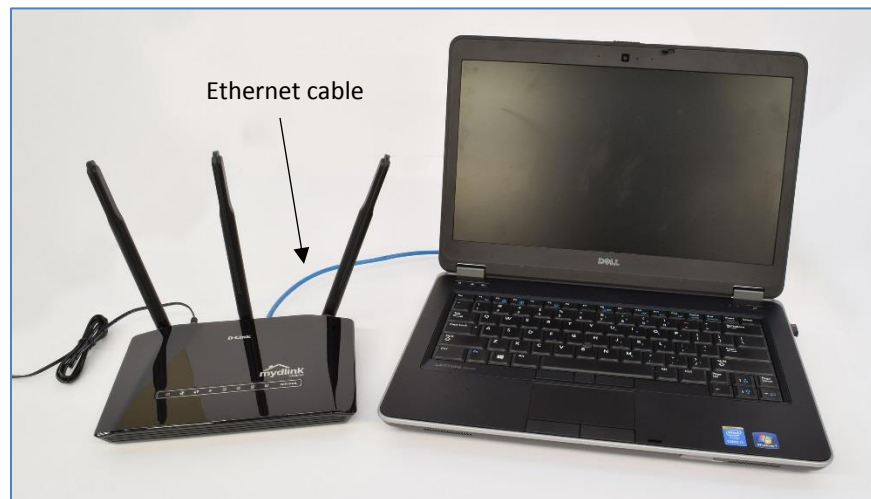

Figure 24: Ethernet connection to wireless router
3. Plug an Ethernet cable from the router's WAN port into the Ethernet port on the computer, as shown in Figure 24.